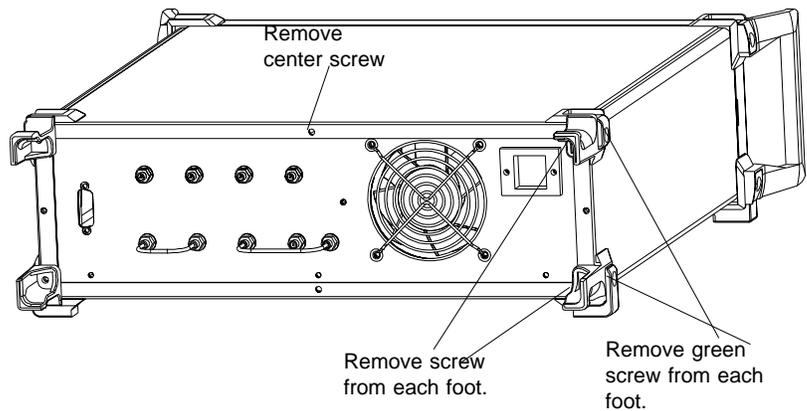

Figure 5-2. *Side Cover Removal*
- Remove the center screw from the left cover (Figure 5-2).